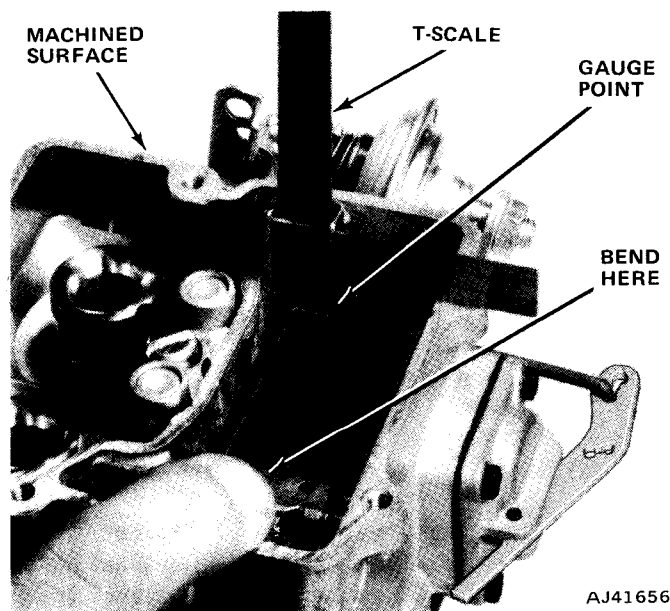

Fig. 4-51 Dry Float Adjustment
(1) Remove air horn assembly and gasket. Raise float by pressing down on float tab until fuel inlet needle is lightly seated.
(2) Using a T-scale, measure distance from the fuel bowl machined surface to the flat surface of either corner of the float, at the free end (refer to Carburetor Service Specifications for the correct setting).
(3) Bend float tab to adjust and hold fuel inlet needle off its seat while adjusting, to prevent damage to the Viton tipped needle (fig. 4-51).